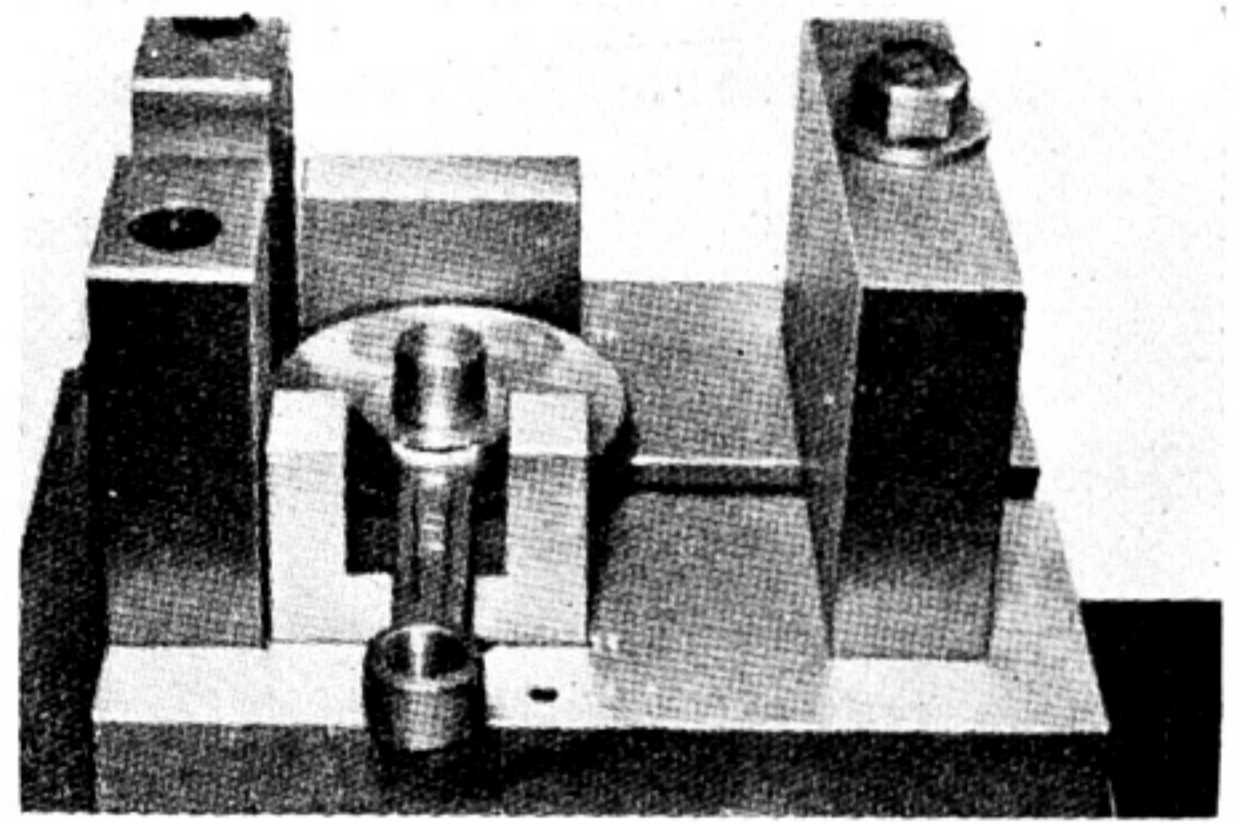

Fig. 3-16-13
- b. Press the crank pin onto one end of the crankshaft, and install the crankshaft in Tool No.1. Then install the connecting rod on the shaft. (Fig. 3-16-13)